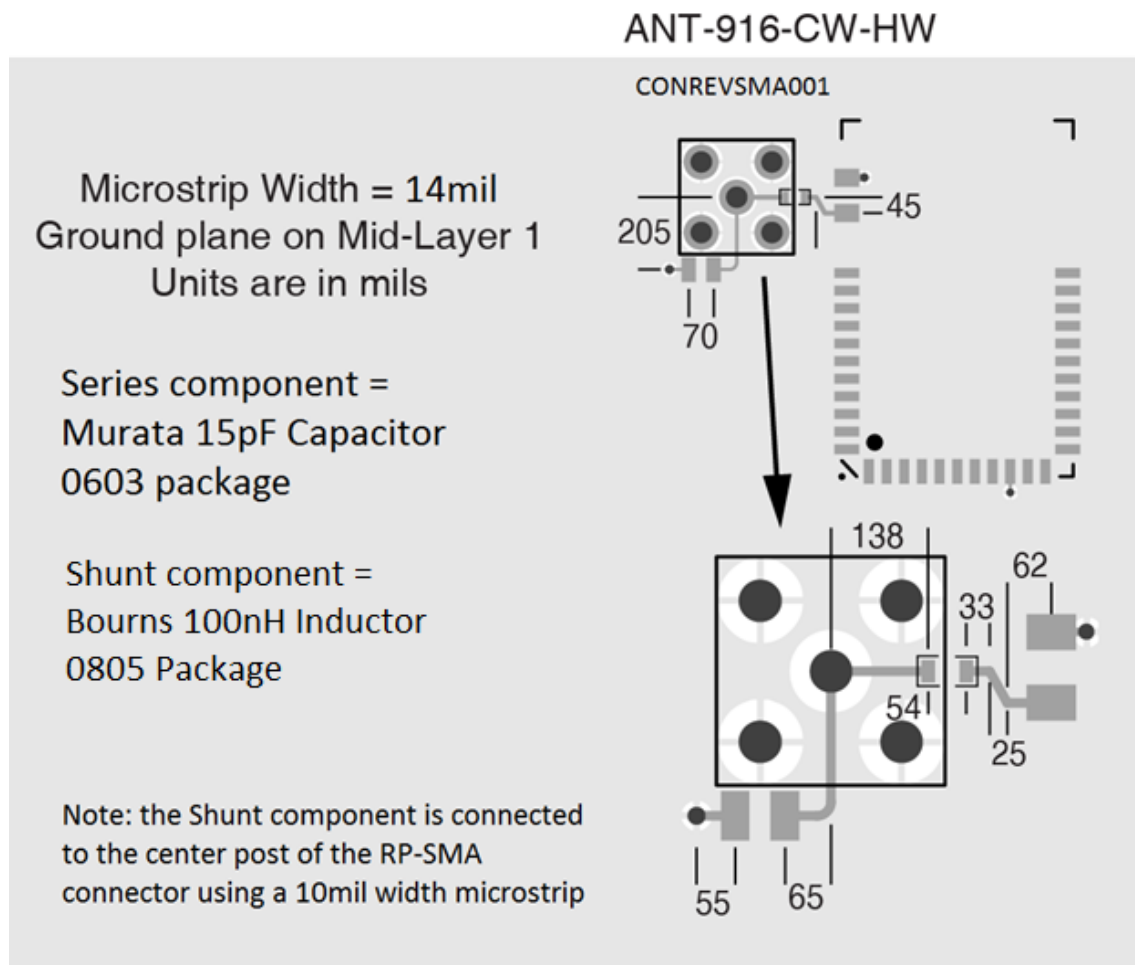

Figure 3 - Trace Dimensions and RF Matching Component Placement for Vertical Mount RP-SMA Connection
- Figure 3 shows the trace dimensions that must be followed precisely, including trace width, routing, and RF matching components. A 15pF series capacitor (Murata GRM0335C1H150GA01D) is located between the module and the RP-SMA connector for RF matching. A 10mil wide microstrip connects the center post of the RP-SMA connector to a 100nH inductor (Bourns CW201212-R10J) for RF matching.
Note: The vertical SMA connector is a through-hole mount component. The connector must be installed on the bottom of the PCB. Figure 3 shows the top side of the PCB where the HUM-A-900-PRO-CAS module is mounted and the solder side of the RP-SMA connector is visible.